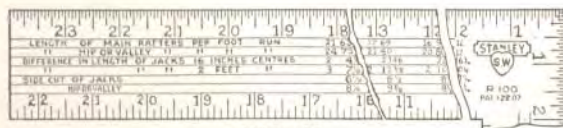

FIG. 22.
38. LENGTH OF RAFTER. The lengths of Common Rafters are found on the "first" line indicated as: Length of main rafters per foot run. There are seventeen of these tables beginning at 2 inches and continuing to 18 inches. Fig. 22.
The lengths of hip and valley rafters are found on the "second" line of the rafter table entitled: "Length of hip or valley rafters per foot run," which means that the figures in the table indicate the length of hip and valley rafters "per foot run of common rafters." Fig. 22.
The figures given in this line refer to the graduation marks on the "outside edge of the body." Fig. 22.